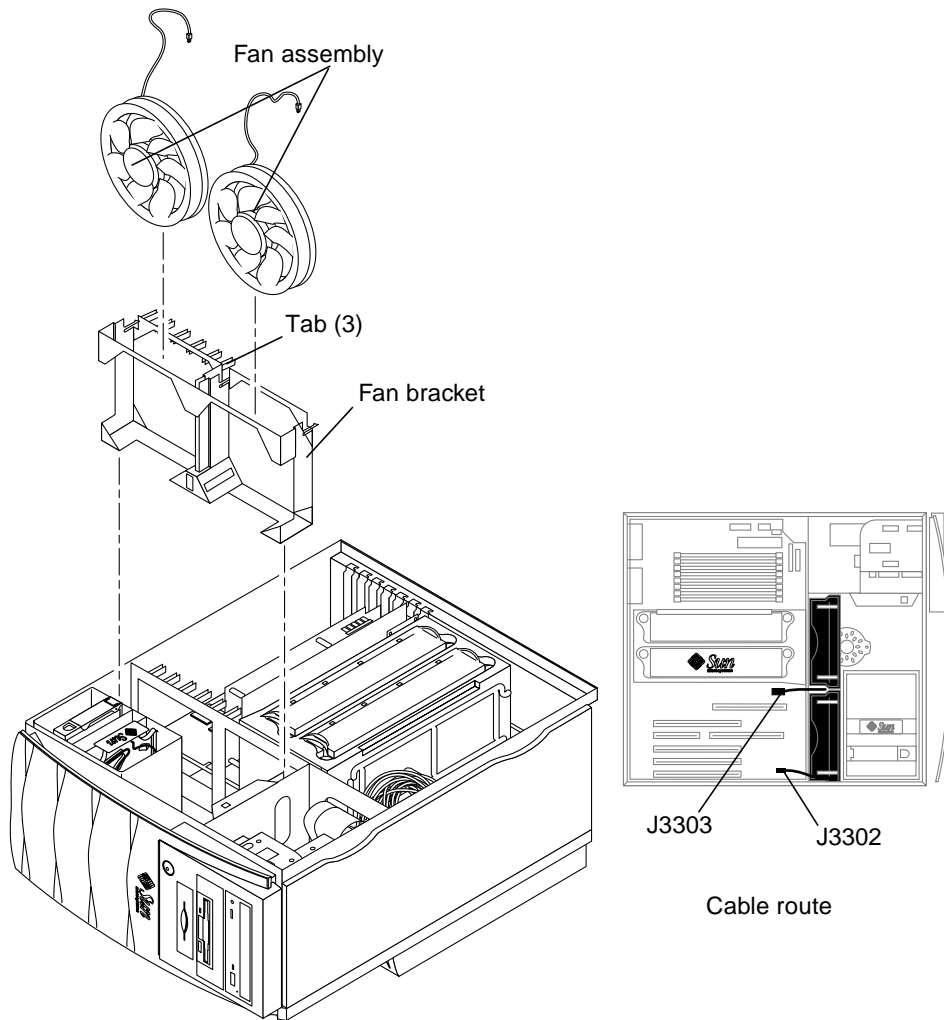

FIGURE 6-13 Removing and Replacing a Fan Assembly
2. **Disconnect the fan assembly power connectors from the motherboard connector J3302 for the lower fan assembly or J3303 for the upper fan assembly (FIGURE 6-13).**
See FIGURE 6-13.
1. Press the fan assembly into the fan bracket (FIGURE 6-13).